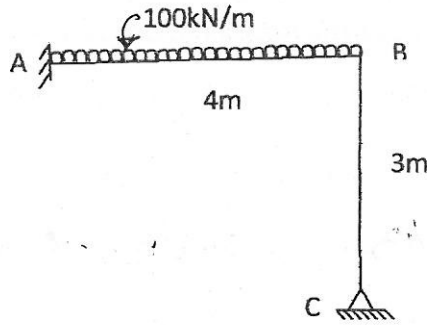

Fig.1.
Q.4 Analyse the frame loaded and supported as shown in fig.1, by using flexibility matrix method. 16